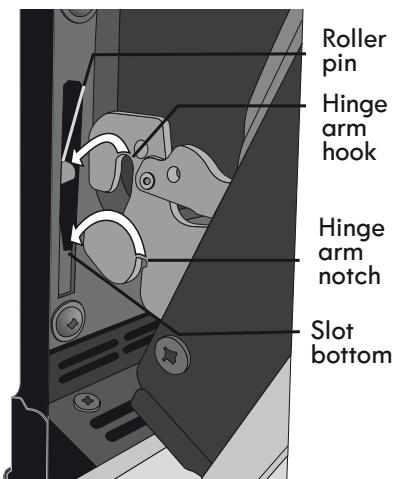

Fig. 4
5. With the oven door in the broil stop position, lift the oven door hinge arms over the roller pins located on each side of the oven frame (See Fig. 4).
2. Holding the oven door at the same angle as the removal position, seat the hook of the hinge arm onto the roller pins located on each side of the oven door frame (See Fig. 4). Also, seat the notch of the hinge arm onto the bottom of the slot at the same time you seat the hook. The hook and notch of the hinge arms must be fully seated onto the roller pins and bottom of the slot.